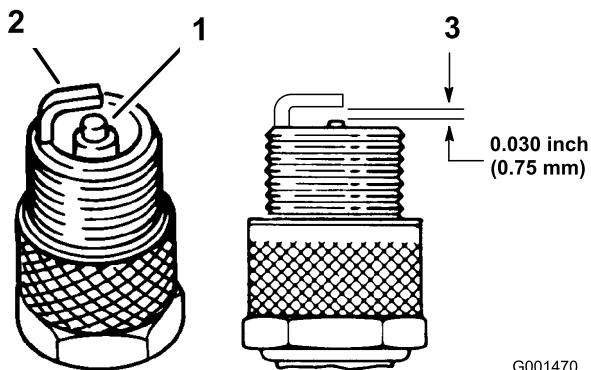

Figure 36
3. Check the gap between the center and side electrodes (Figure 36). Bend the side electrode (Figure 36) if the gap is not correct.
3. Connect the wire to the spark plug (Figure 36).
1. Look at the center of the spark plug (Figure 36). If you see light brown or gray on the insulator, the engine is operating properly. A black coating on the insulator usually means that the air cleaner is dirty.